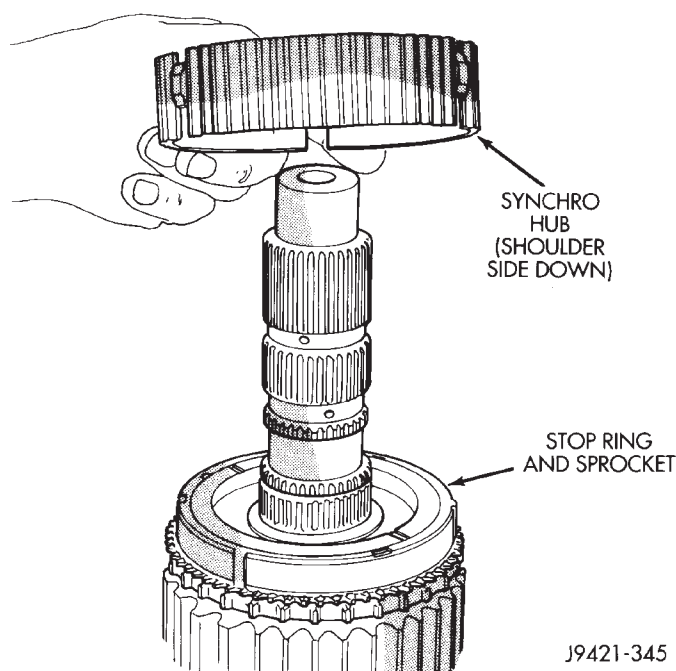

Fig. 74 Synchro Hub Installation
- (4) Install assembled synchro hub on mainshaft (Fig. 74). Hub has shoulder on one side which goes toward sprocket (rear of shaft). Flat side of hub faces front of shaft.